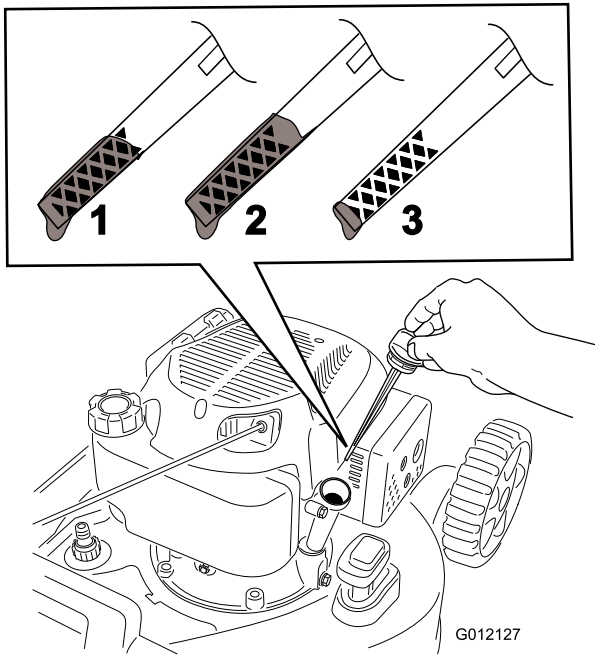

Figure 12
2. Remove the dipstick by rotating the cap counterclockwise and pulling it out (Figure 12).
5. Read the oil level on the dipstick (Figure 12).
- If the oil level on the dipstick is too low (Figure 12), carefully pour a small amount of SAE 30 or SAE 10W-30 detergent oil into the oil-fill tube, wait 3 minutes, and repeat steps 3 through 5 until the oil on the dipstick is at the correct level.
- If the oil level on the dipstick is too high (Figure 12), drain the excess oil until the oil on the dipstick is at the correct level; refer to Changing the Engine Oil \(page 15\).